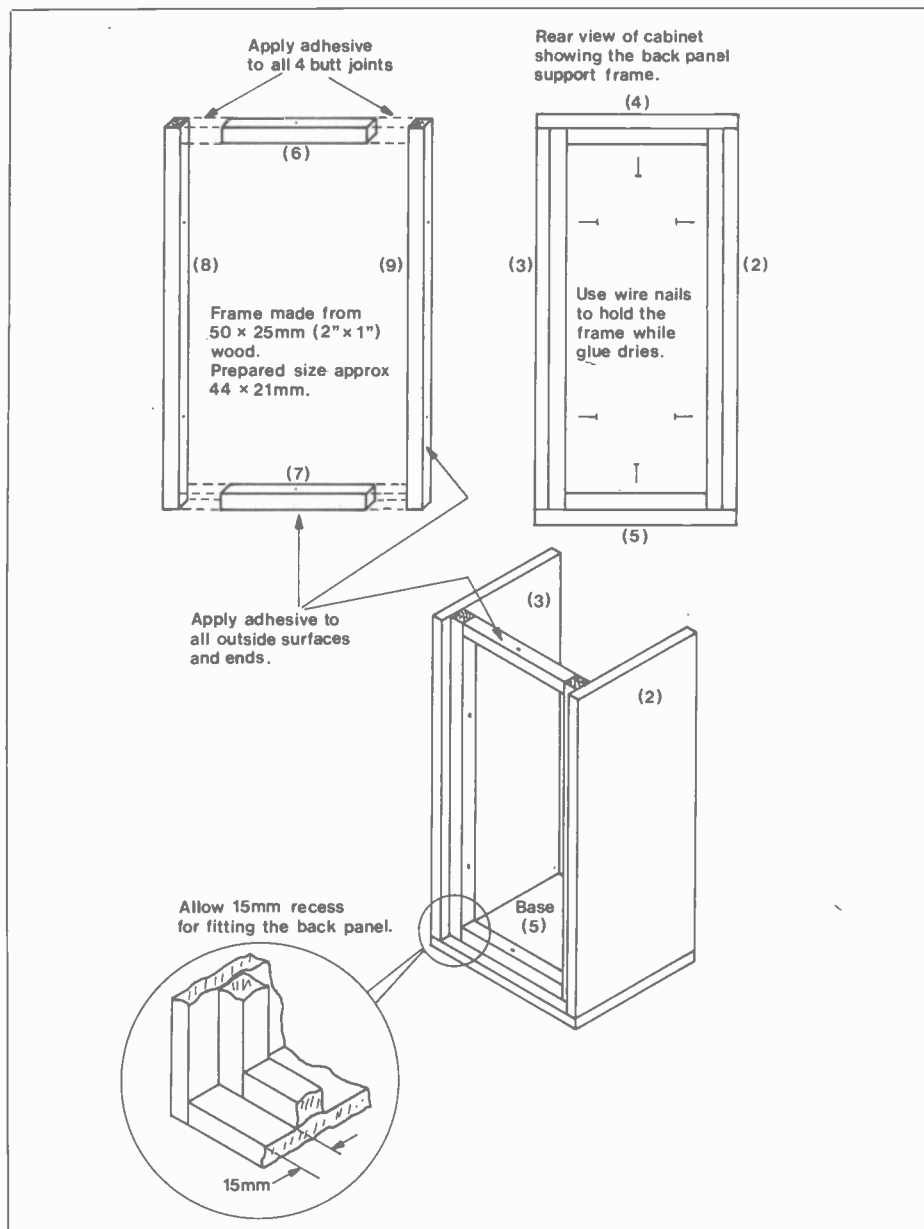

Figure 6. Back panel framework.
Figure 6 shows details of the framework assembly and the inset drawing emphasises a 15mm recess to allow for the thickness of the back panel. Both vertical braces (8) & (9) are cut to the same length as the side panels (410mm),